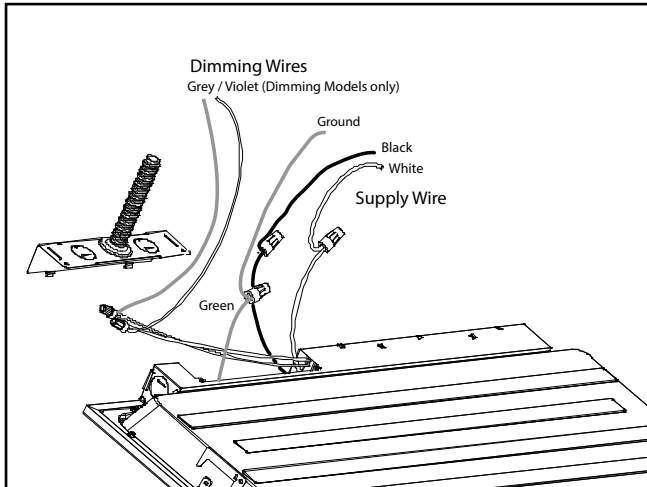

Figure 4.
- Use open knockout to bring in supply wire. Using the Wire Nuts - (3 pcs. 14 AWG & 2 pcs 8 AWG) attach the ground wire with the supply ground wire, the black wire to the black supply wire, and the white (common) wire to the white supply wire (Fig. 4)